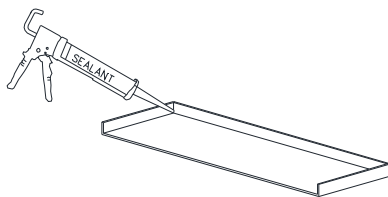

Figure 3:
- Apply sealant in all corners and seams (Figure 3).